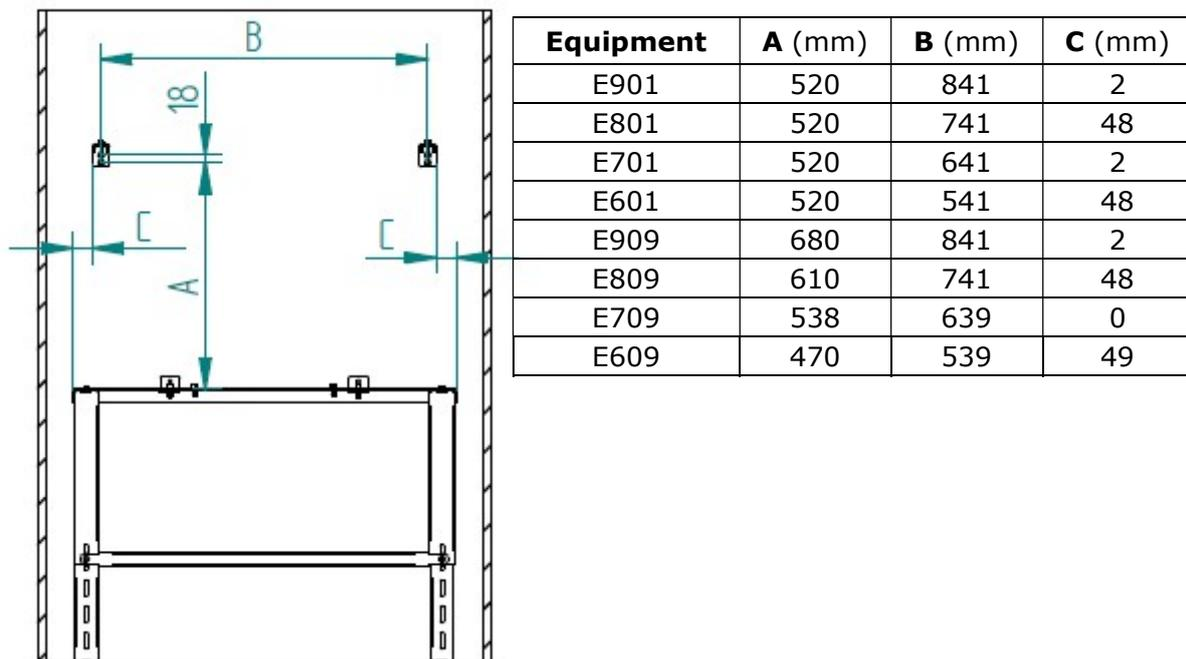

Figure 8 - Mounting the upper brackets
7. After fixing the table to the floor and wall, you should drill the holes for FIP bushing M8x60 Ø10mm Chemical, for the upper supports "PA1090G053", according to the indicated measures, see Figure 8.